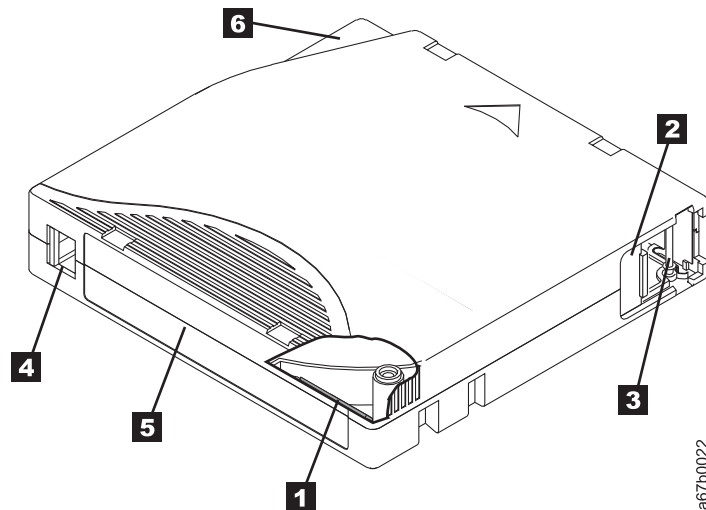

Figure 4-1. The IBM LTO Ultrium 1500 GB Data Cartridge
Figure 4-1 shows the IBM LTO Ultrium 1500 GB Data Cartridge and its components.
All generations of the IBM LTO Ultrium Data Cartridges include a Linear Tape-Open Cartridge Memory (LTO-CM) chip (  in Figure 4-1 on page 4-1), that contains information about the cartridge and the tape (such as the name of the manufacturer that created the tape), as well as statistical information about the cartridge's use. The LTO-CM enhances the efficiency of the cartridge. For example, the LTO-CM stores the end-of-data location which, when the next time this cartridge is inserted and the Write command is issued, enables the drive to quickly locate the recording area and begin recording. The LTO-CM also aids in determining the reliability of the cartridge by storing data about its age, how many times it has been loaded, and how many errors it has accumulated. Whenever a tape cartridge is unloaded, the tape drive writes any pertinent information to the cartridge memory.
When attaching a bar code label to a tape cartridge, place the label only in the recessed label area (see **5** in Figure 4-1 on page 4-1). A label that extends outside of the recessed area can cause loading problems in the drive.
- Position the label within the recessed label area (see **5** in Figure 4-1 on page 4-1).